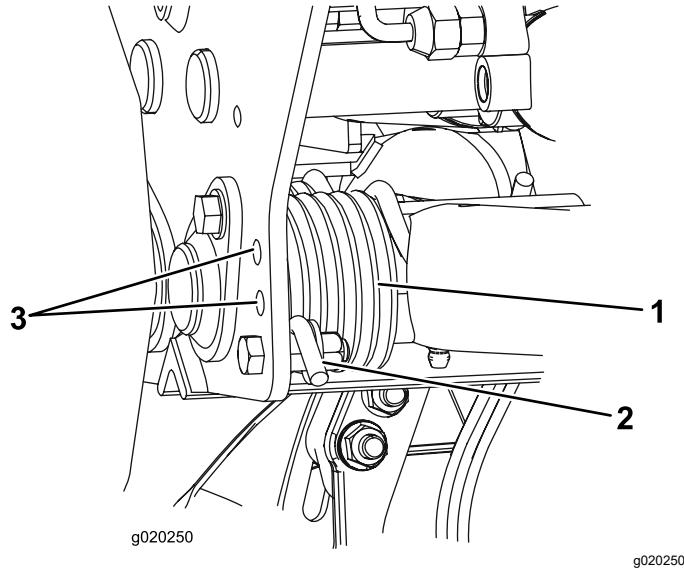

Figure 35
2. Insert a tube or similar object onto the long spring end to relieve the spring tension during the adjustment (Figure 35).
3. While relieving the spring tension, remove the bolt and locknut securing the spring actuator to the bracket (Figure 35).